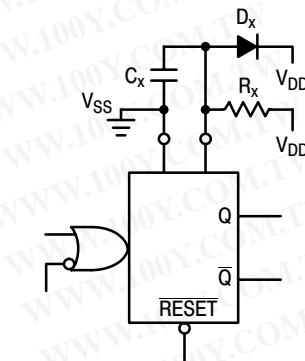

Figure 11. Use of a Diode to Limit Power Down Current Surge
9. If $C_X > 15 \mu\text{F}$, use discharge protection diode per Fig. 11.
When a more rapid decrease of V_{DD} to zero volts occurs, the MC14538B can sustain damage. To avoid this possibility use an external clamping diode, D_X, connected as shown in Fig. 11.